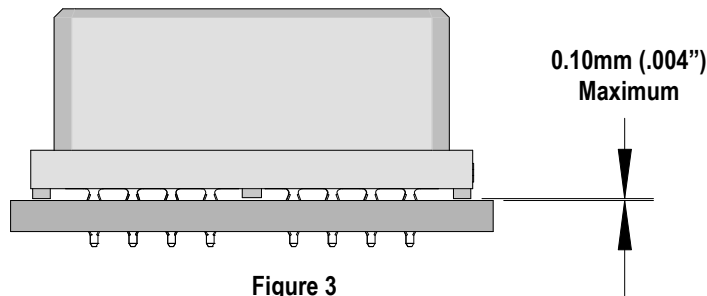

Figure 3
3. Using the application tool and an appropriate press, seat the vertical power module until there is less than 0.10mm (.004 in) clearance between the bottom of the plastic housing and the surface of the PCB. See Figure 3.